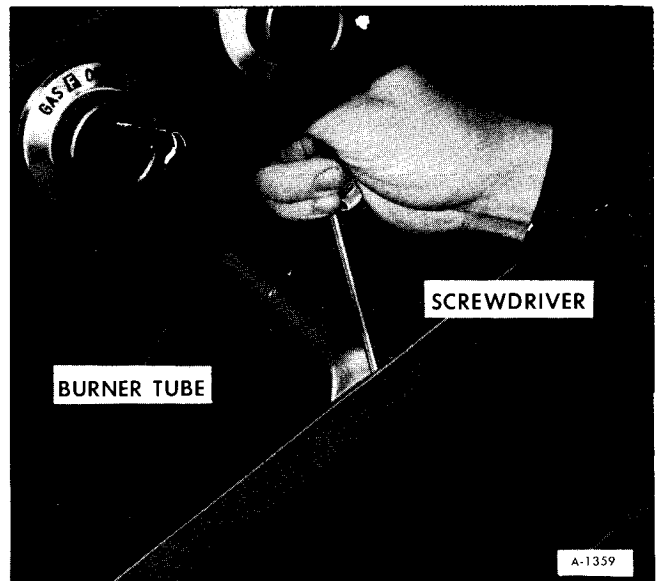

Figure 19—Removing Retaining Screw at Front of Burner Tube
7. Remove the screw from the front of the burner tube (figure 19).